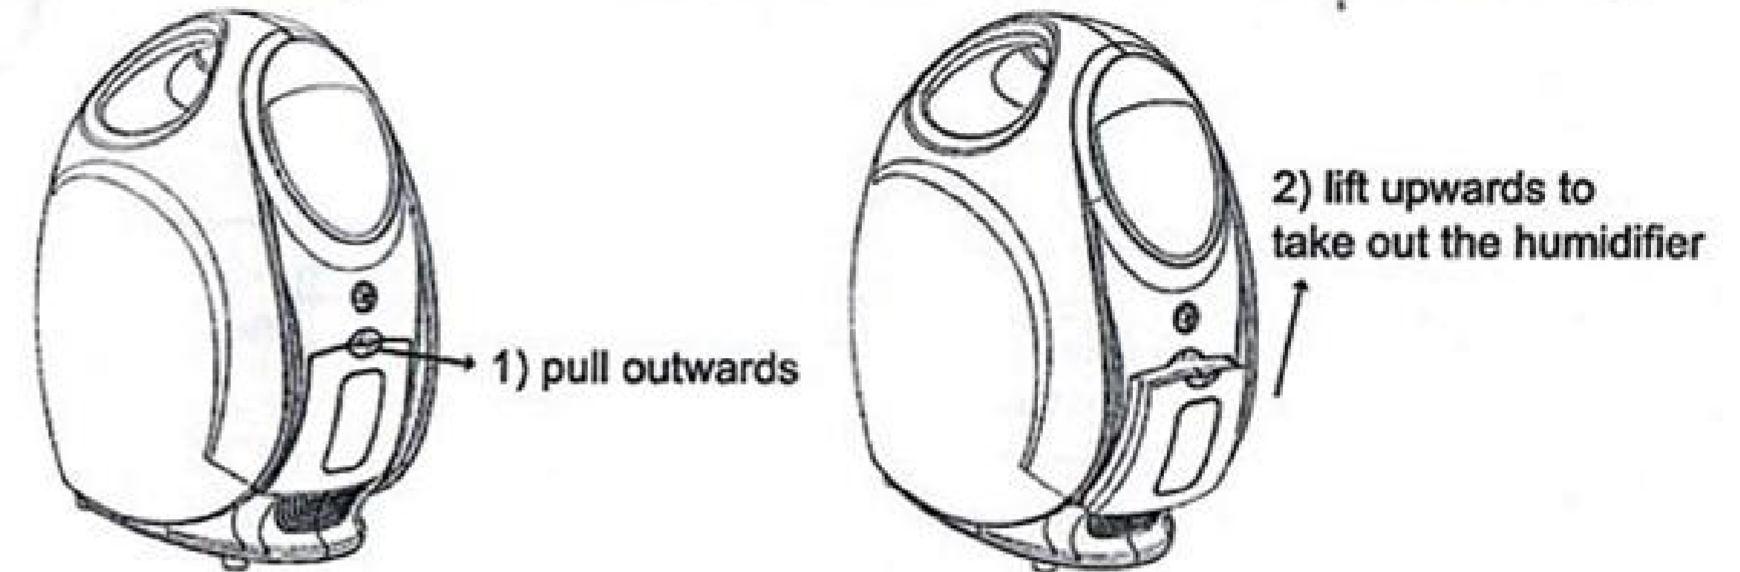

Fig. 10
(1) Pull out the humidifier (Fig. 10) in the direction as shown below.